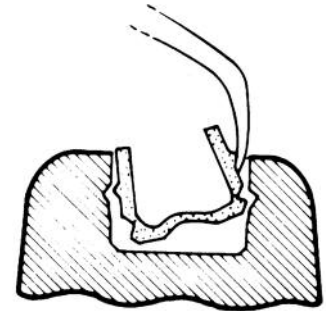

Fig. 15
3. Using a blade or explorer like instrument, collapse the remaining ring into the open space created by removal of the core and lift it out (Fig. 15).